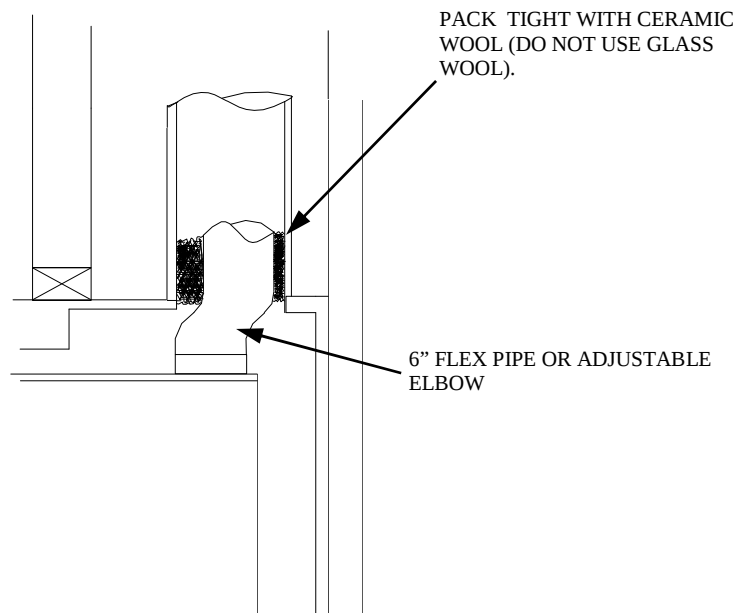

FIGURE 3
1. The second method is to use a 6" stainless steel connector (rigid or flex) and a ceramic blanket (available from your dealer). (See Figure 3).